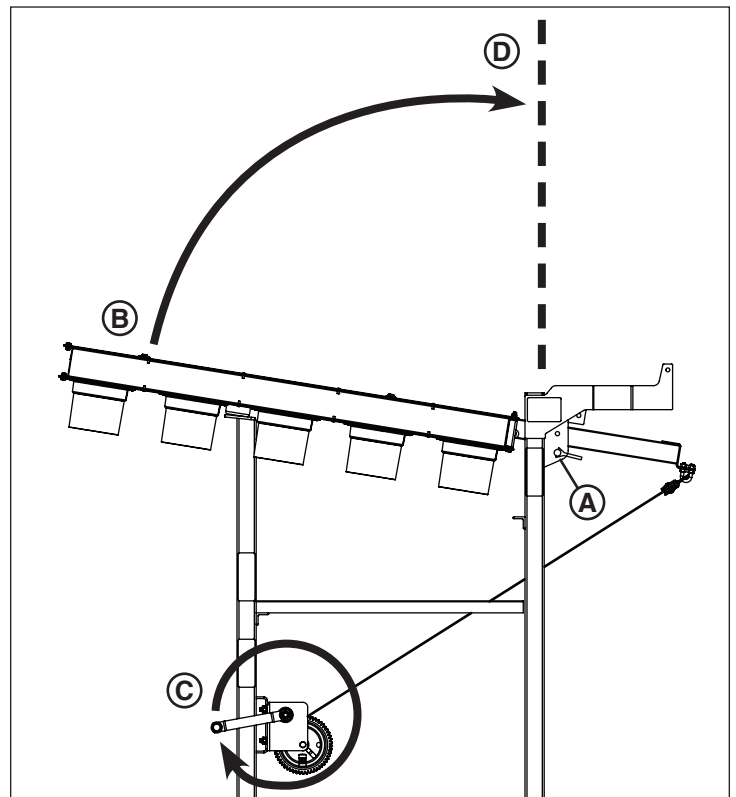

Figure 11
1. Remove the locking pins (A, Figure 11) securing the sign board in the transport position (B).
2. Turn the winch handle clockwise (C, Figure 11) until the sign board is in the operating (vertical) position (D).